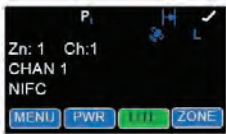

Figure 7
- LCD will indicate Low Power with a “L” and High Power with a “H” on the LCD. (See Figure 7 and 8)